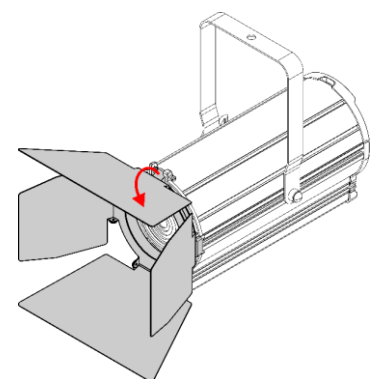

Fig. 13
- 03) Pull the **color frame clip (02)** downwards to release the **spring-loaded screw (01)** (see Fig. 13). The barndoor will be locked in position.